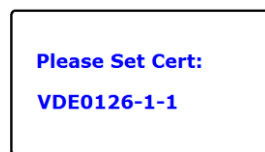
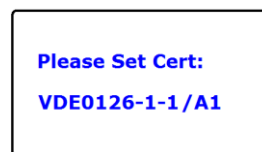

Fig 6.3.1
Fig 6.3.2
- 1) When at the first interface 'Please Set Cert:' the option is 'VDE0126-1-1' in default. By single knock, grid codes will vary from one to another, for example, 'VDE0126-1-1/A1', as Fig 6.3.1 and Fig 6.3.2